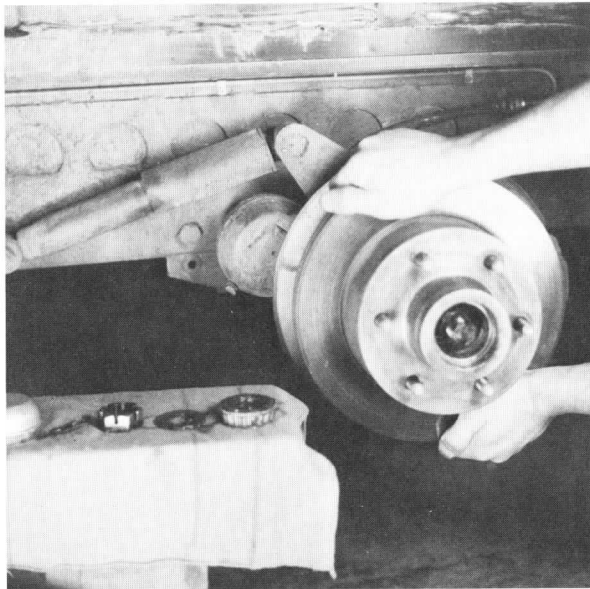

Fig. 44
REMOVING HUB AND ROTOR ASSEMBLY (Fig. 44)
2. If only rotor is to be removed leave caliper housing assembly on mounting studs. Ref. items 4 and 5, see Page 25
5. Remove hub and rotor assembly from spindle. (Fig. 44)